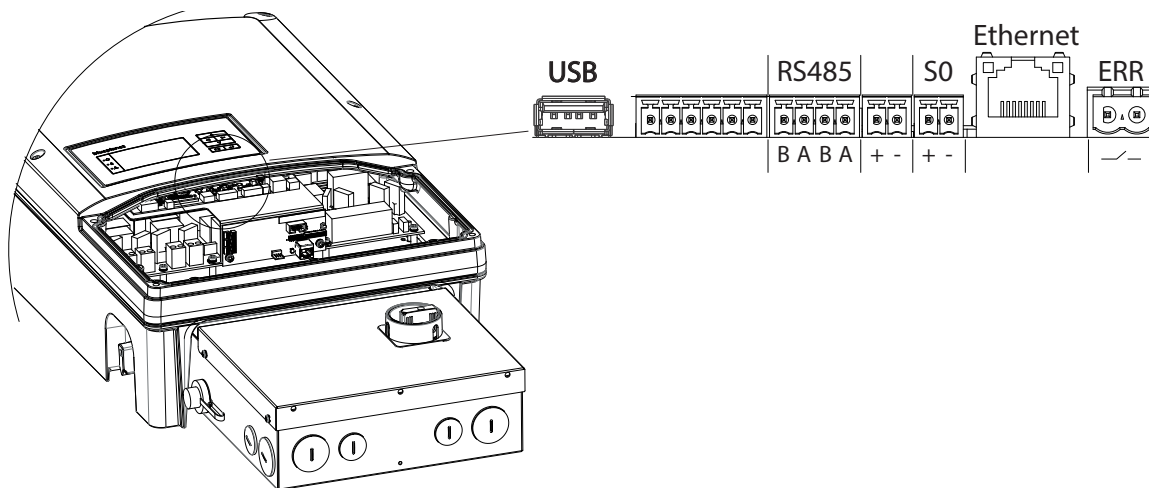

Figure 19: Connection area: Connection and pinout of the interfaces
- LI2YCYv (TP) black for laying cable outside and in the ground 2 x 2 x 0.5
- LI2YCY (TP) grey for dry and moist spaces 2 x 2 x 0.5
2. Connect the connection cable to the connection terminals provided (Figure 19 on page 26).
- 2. Connect the connection cable to the Ethernet interface (Figure 19 on page 26).